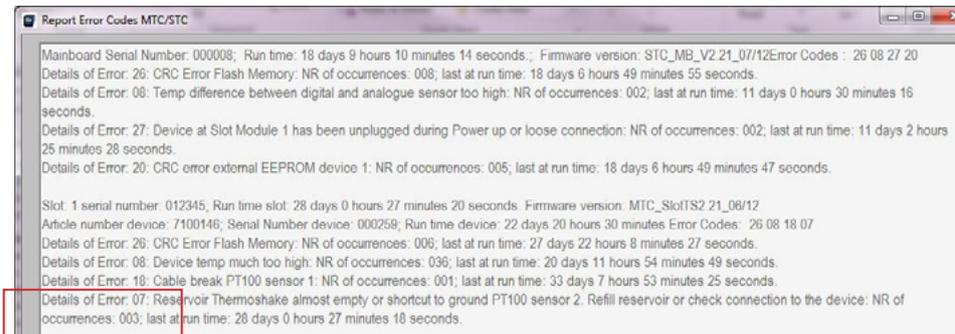

Fig.26: Example: Details of Error 07: no. of occurrences: 003, in case of an increase in 2nd report to 004 → refill is required
- Search in the displayed report for Details of Error: 07: **occurrences: 00X** → Fig. 26